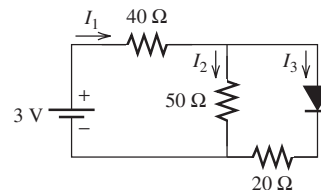

FIGURE P8.14 Circuit for Problem 8.14.
- 8.14 (H)* Determine the current through the diode for the circuit shown in Figure P8.14.